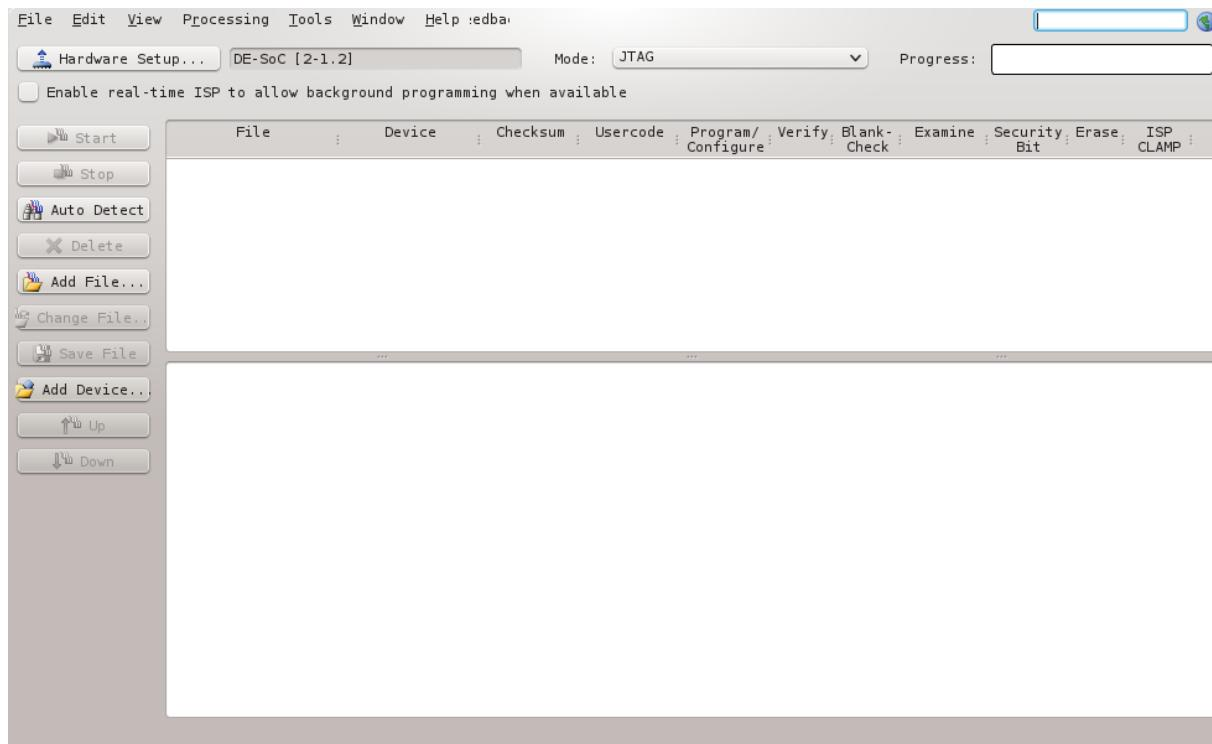

Figure 8-16. Quartus II Programmer
37. Choose the “Auto Detect” button on the left of Figure 8-16, then choose “5CSEMA5”, as shown in Figure 8-17.